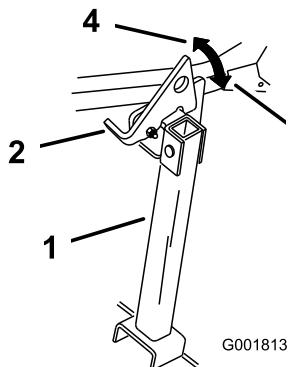

Figure 33
- Raise the latch to the unlocked position (Figure 33).